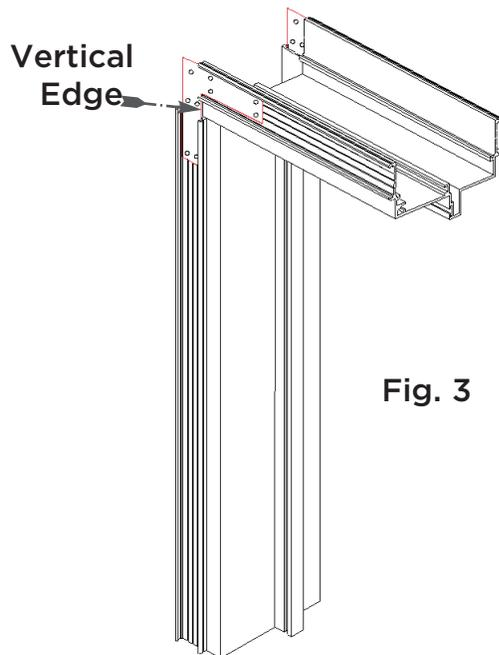

Fig. 3
- a.) If doors are not premortised, then use a square to attain a 90° corner between head & jambs. Head must butt up to vertical edge of clip (Fig. 3) and set flat in alignment groove (Fig. 4). You can then attach clips.
9. Pull header down to door, allowing 1/8" spacing. Install corner clips (Fig. 3 & 4) and secure to wall.